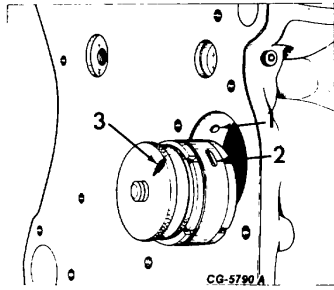

Figure 16. - Camshaft Bushing Installation
1. If the camshaft bushings were removed install new bushings using the Camshaft Bushing Puller and Installer Tool. Be sure the oil holes in the bushing (2, Fig. 16) line up with the oil holes in the crankcase (1) as shown.
2. To ease oil hole alignment, mark the back-up nut (3, Fig. 16) in line with the bushing oil hole (2) as shown when installing the bushings.